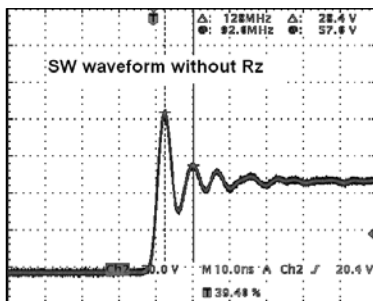
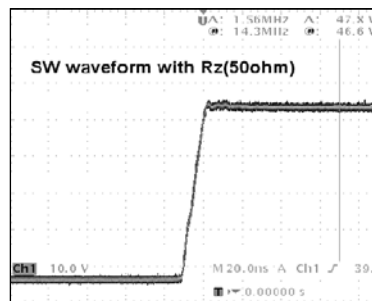

Figure 3
Figure 4
- 1: One resistor R_z ($50\ \Omega$) is added between the SW pin and C_b pin. This changes the SW node waveform from **Figure 3** to **Figure 4**. The criterion of R_z selection is dependent on the SW turn-on slew rate and its ringing. The smaller the ringing, the better.